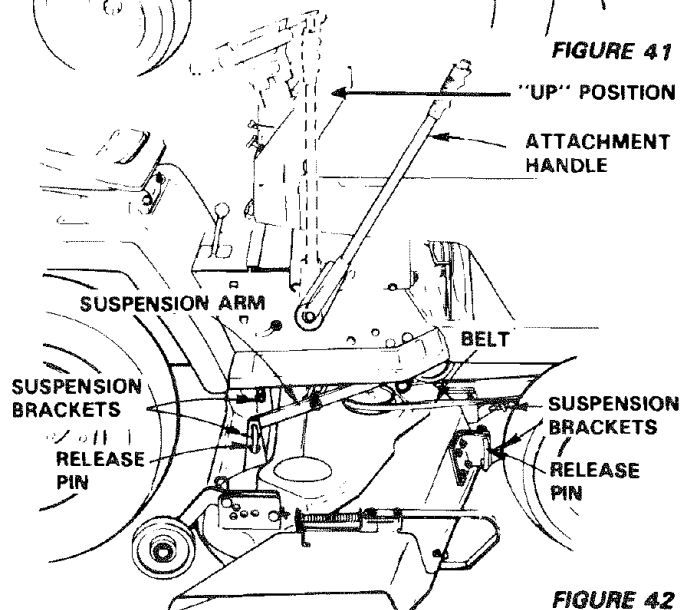

FIGURE 42
- Pull the four (4) release pins out of suspension brackets (Fig. 42).
NOTE: IF AN ATTACHMENT OTHER THAN THE MOWER DECK IS TO BE MOUNTED ON THE TRACTOR, REMOVE THE L.H. AND R.H. SUSPENSION ARMS (FIG. 42).